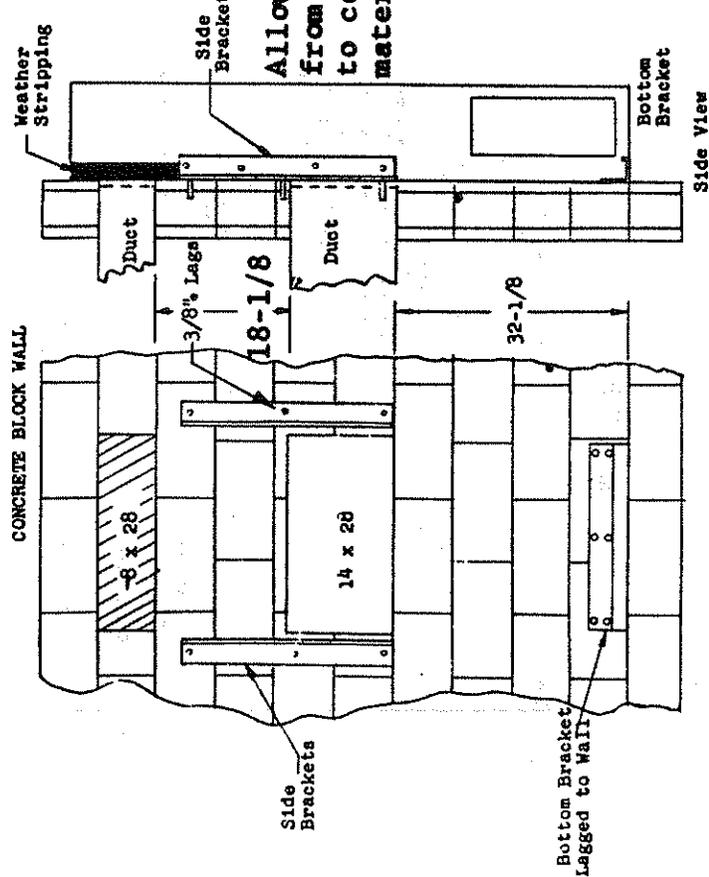

Fig. 1
1. Two holes, the size of the supply and return air openings must be cut through the wall as shown in Fig. 1 and 2 on page 6.
Whenever a model WA or WZ is installed, a galvanized metal duct liner must always be attached (Fig. 1). Before installing, determine the wall thickness. If the installation is free air flow, with no external duct, then the liner should be cut flush with the inside wall opening. In order to insure no sweating, the duct liner should be wrapped with a minimum of 1" insulation.